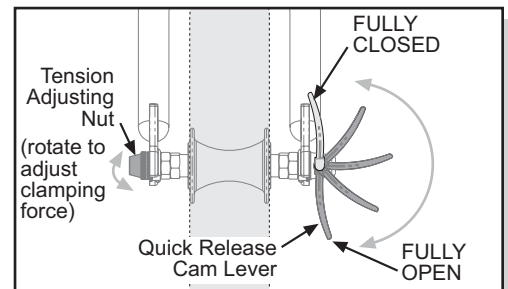

Fig. 7 Front Wheel Quick Release Anatomy.
The wheel quick release uses a cam action to clamp the stroller wheel in place (Fig. 7). Because of its adjustable nature, it is critical that you understand how it works, how to use it properly, and how much force you need to apply to secure the wheel.
- Move the quick release cam lever so that it curves away from the wheel (Fig. 7). This is the FULLY OPEN position.
- While pushing the wheel firmly to the top of the slots in the fork dropouts, and at the same time centering the wheel rim in the fork, move the quick release cam lever upwards and swing it into the FULLY CLOSED position (Fig. 7 & 9). The lever should now be parallel to the fork blade and curved toward the wheel. To apply enough clamping force, you should have to wrap your fingers around the fork blade for leverage, and the quick release cam lever should leave a clear imprint in the palm of your hand.
- Move the wheel's quick-release lever from the locked or FULLY CLOSED position to the FULLY OPEN position (Fig. 7). Your front fork has integral secondary retention devices. Loosen the tension adjusting nut enough to allow removing the wheel.